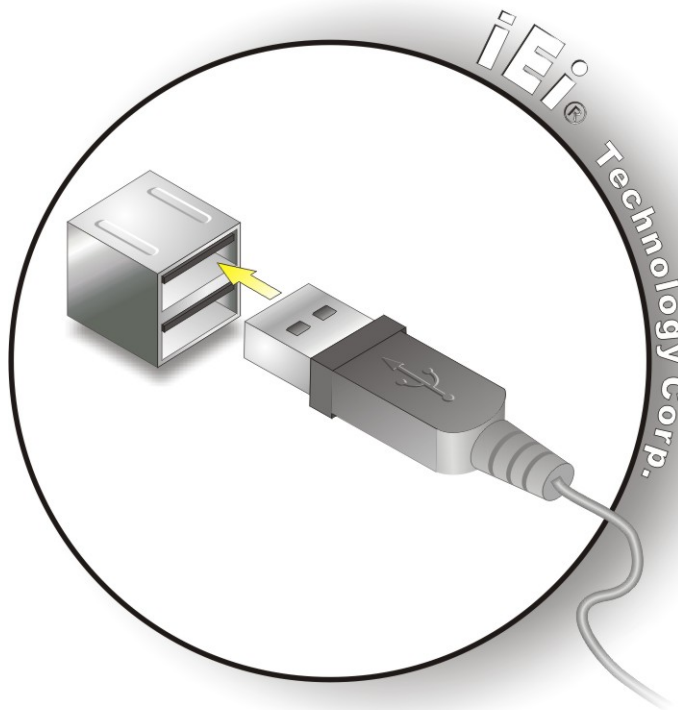

Figure 3-27: USB Device Connection
Step 2: Align the connectors. Align the USB device connector with one of the connectors. See **Figure 3-27**.